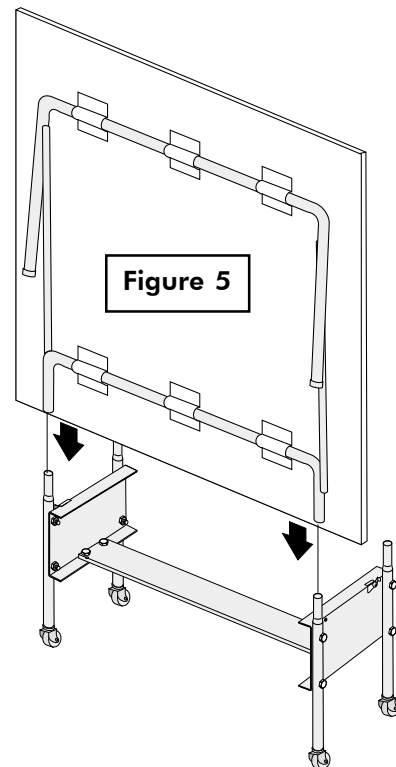

Figure 5
18. With two adults, attach table top (#1) to table base, as shown in Figure 5. With at least one adult on each side of table top, lift top and align ends of "U"-support tube with top of upright tubes. Slide tubes together.